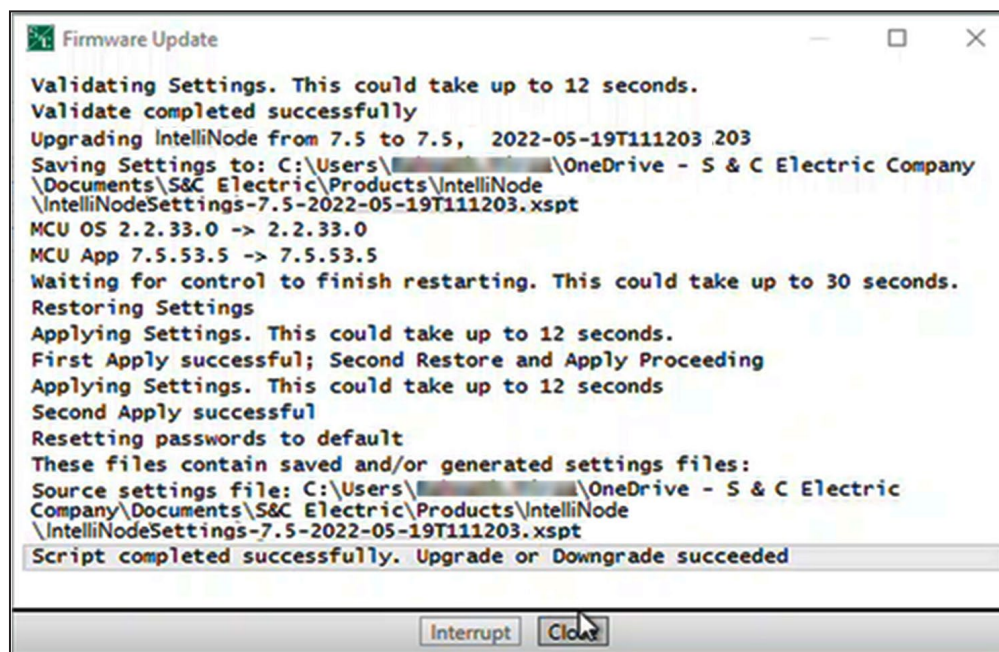

Figure 25. The Script completed successfully notice.
STEP 12. When “Script completed successfully” is indicated in the Firmware Update dialog box, click on the **Close** button. See Figure 25.